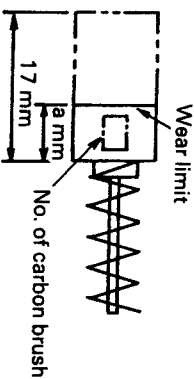

Fig. 4
4. **Inspecting the carbon brushes (Fig. 4)**